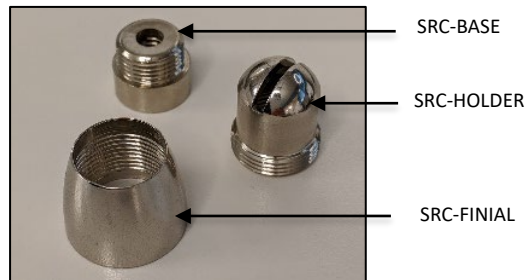

FIG. 18 – SLIP RING COUPLER (1)
1. Dis-assemble the SLIP RING COUPLER (1) as shown below into three components SRC-BASE, SRC-HOLDER and SRC-FINIAL as shown in FIG. 18.